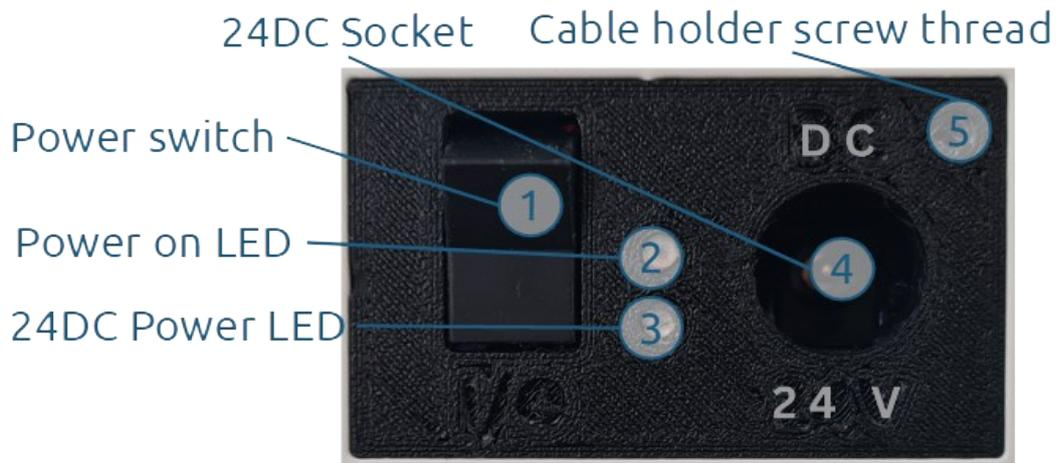

Figure 5:
Figure 5 shows the elements of the power panel.
1. Power on the device with the *power switch* located at the rear of the device (see Figure 5; page 12).